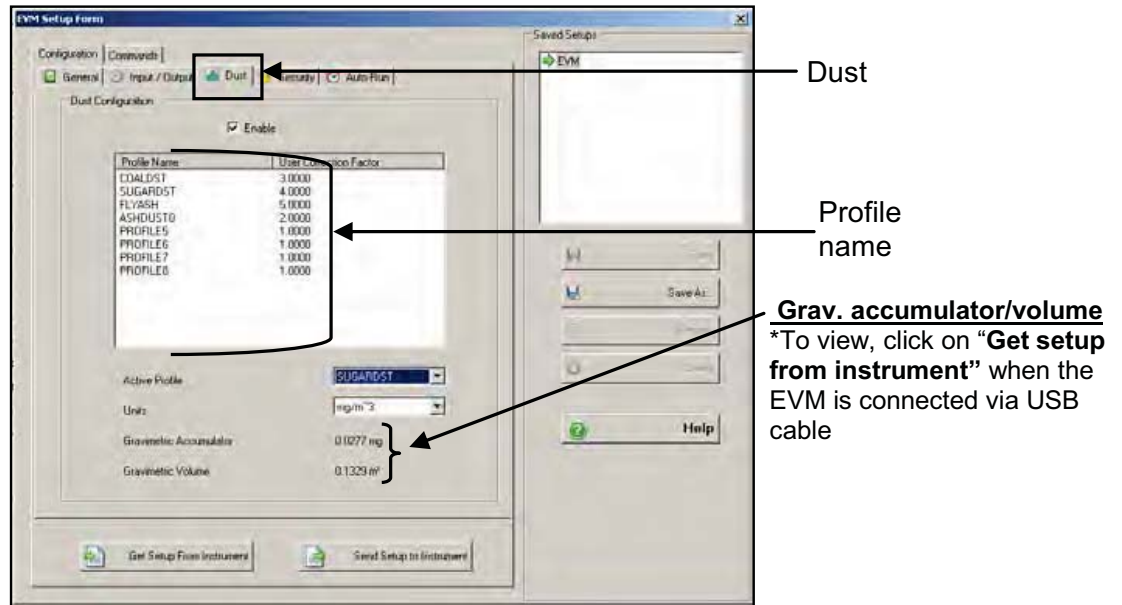

Figure 6-4: Dust window explained
2. To enable or disable, **check/uncheck** the **Dust Enable** checkbox accordingly (A).
3. To Edit a profile, double-click on a profile name (see B in Figure 6-4) and the dust profile editor box will appear.
4. The gravimetric accumulator and gravimetric volume values are retrievable from the instrument. (Ensure the EVM is connected to the pc.) To retrieve the mass and volume, press the **Get setup from instrument** (see F in Figure 6-4).